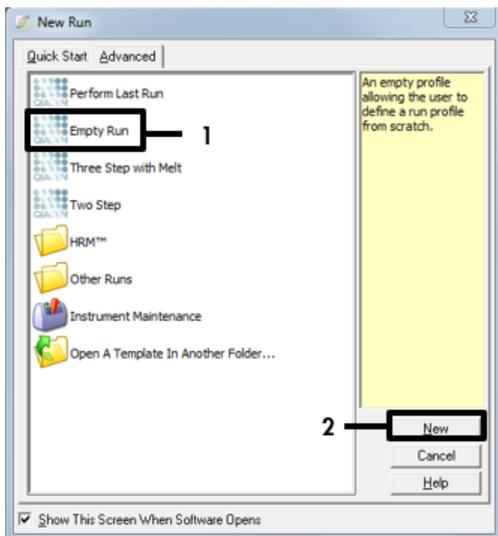

Figure 9. Starting a new run. 1: "Empty run". 2: "New run".
14. Select **Empty run**, then click **New** (Figure 9).